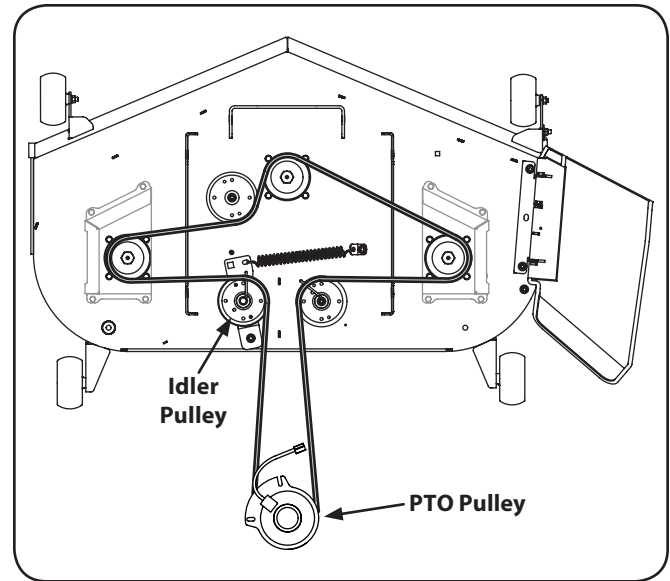

Figure 7-8
6. Route the belt as shown in Fig. 7-8. After routing the belt around the PTO pulley, use a ½" drive in the idler pulley bracket and turn towards the back of the tractor to finish routing the belt around the idler pulley.
4. Install the new belt around the spindle pulleys as shown in Fig. 7-8 and reinstall the belt covers.